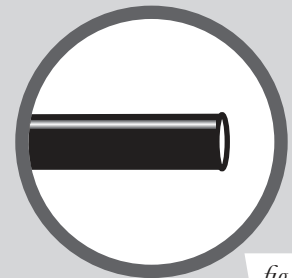

fig. E.4
When cutting air lines, use a sharp knife or a hose cutter and make clean, square cuts (Fig. E.4). Do not use scissors or wire cutters because these tools may deform the air line, causing it to leak around fittings. Do not cut the lines at an angle.
- a. Check the air line connection by deflating the spring and removing the line by pulling the collar against the fitting and pulling firmly on the air line. Trim 1" off the end of the air line. Be sure the cut is clean and square (Fig. E.4). Reinsert the air line into the push-to-connect fitting.